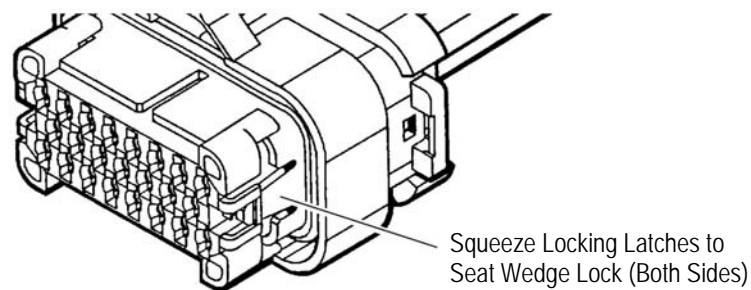

Figure 5
3. After all required contacts have been inserted, the wedge lock must be closed to its **locked** position. Release the locking latches by squeezing them inward (see Figure 5).